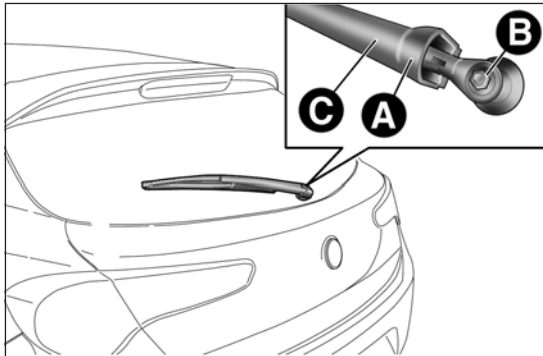

fig. 173
- raise cover A fig. 173, undo nut B and remove arm C;